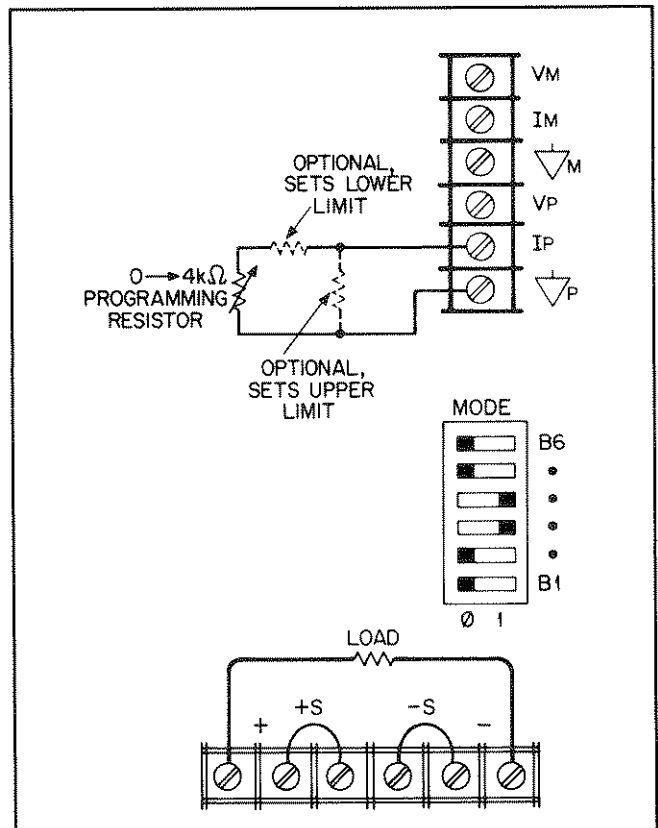

Figure 3-12. Resistance Programming of Output Current
**3-205 Constant Current Output, Resistance Control.** The setup shown in Figure 3-12 allows the output current to be varied by using an external resistor to program the supply. The discussion in Paragraph 3-203 for constant voltage operation also applies for constant current operation.
*If the programming terminals (IP to  $\nabla P$ ) become open circuited during resistance programming, the output current will tend to rise above rating. The power supply will not be damaged if this occurs, but the user's load may be damaged. If there is a possibility that the programming leads may be opened, it is suggested that the optional resistor be connected directly across terminals IP and  $\nabla P$ , as shown in Figure 3-12. The value of this resistor should be selected to limit the output current to the maximum that the load can handle without damage. For example, if the load can handle half the full current rating of the power supply, a 2000 ohm resistor should be connected from IP to  $\nabla P$ . Of course, if this resistor is used, the resistance value actually programming the supply is the parallel combination of the programming resistor and the optional resistor.*